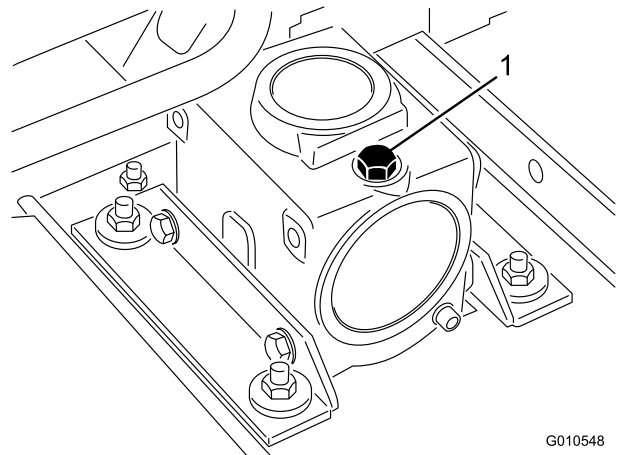

Figure 18
3. Remove the dipstick/fill plug from the top of the gear box (Figure 18) and ensure that the lubricant is between the marks on the dipstick.